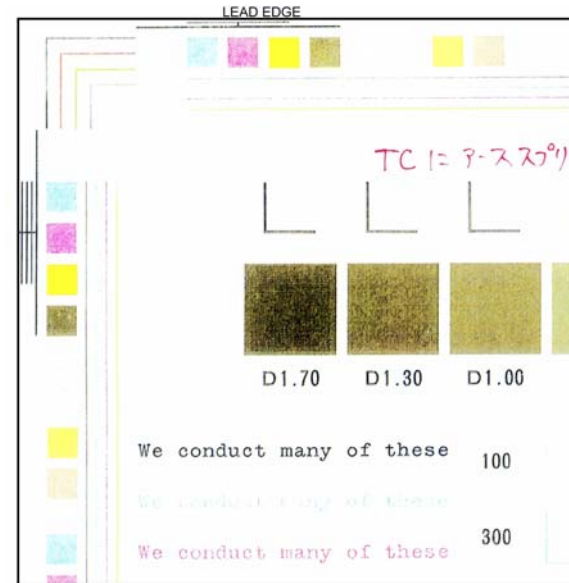

Figure 1 Low Density Defect Sample
1. Check customer print to verify images showing image density lower than specification as in Figure 1.